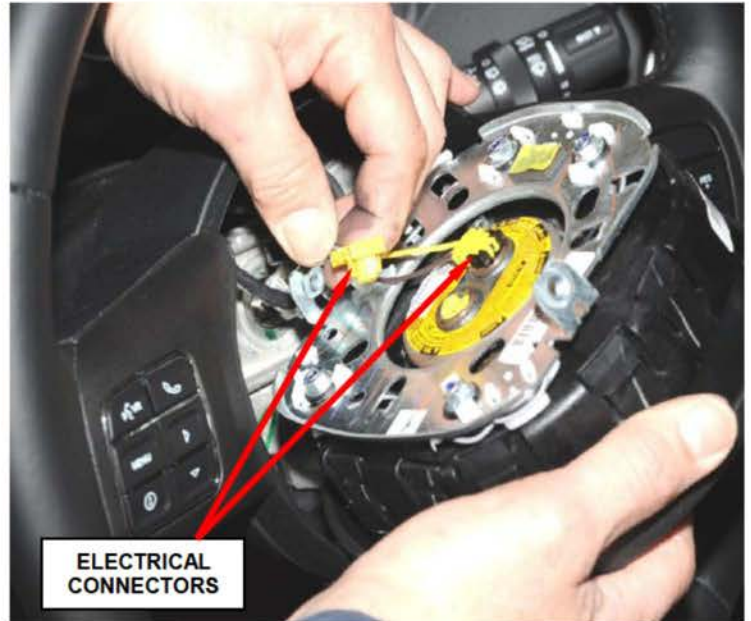

Figure 1 – Airbag Module Electrical Connectors
4. Separate the driver airbag module from the steering wheel and disconnect the two airbag electrical connectors (Figure 1) and the one horn connector. Then set the driver airbag module aside.